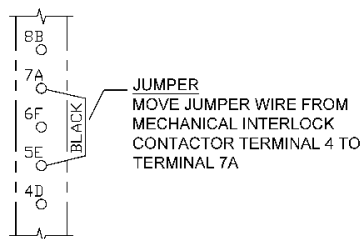

Figure 3-16 Jumper Wire Location at 230V
- 3.5.9.3 Ensure the black Jumper wire, on terminal strip location 5E is in the correct location for the power supply input voltage. See Figures 3-16 or 3-17.